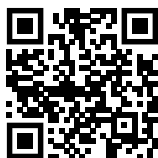

Fig. 173
- Aprire la Liebherr SmartMonitoring Dashboard. (vedere Fig. 173)